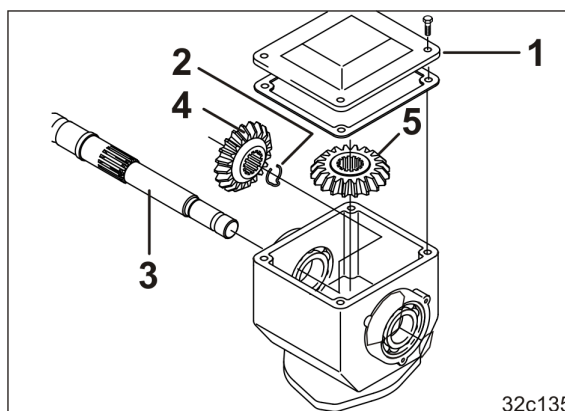

Fig. 121
4. Open the gearbox cover (Fig. 121/1).
5. Pull off the axial retaining device (Fig. 121/2).
6. Pull the drive shaft (Fig. 121/3) out of the gearbox housing.
- The bevel wheel (Fig. 121/4) comes away from the drive shaft.
The second bevel wheel (Fig. 121/5) sits on the output drive shaft. The bevel wheel is not secured axially.